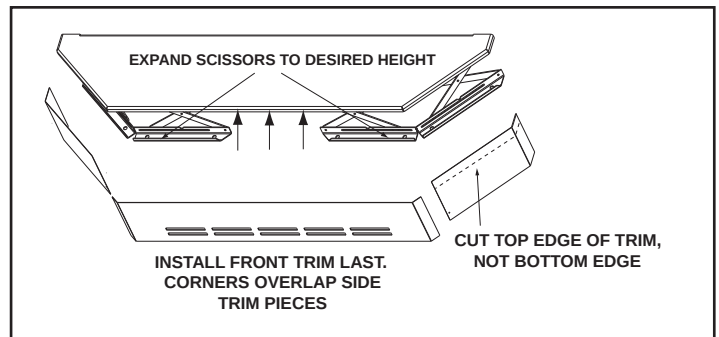

Figure 19.2
3. Measure front and side trims to required height to cover scissors and mark pieces for cutting. Cut excess material from **top** of trim's edge, not bottom. This edge will be sharp; wear gloves to prevent injury to your hands. The cut edge fits under lip of top trim, so it allows for some variance in your straight edge. **Figure 19.2.**